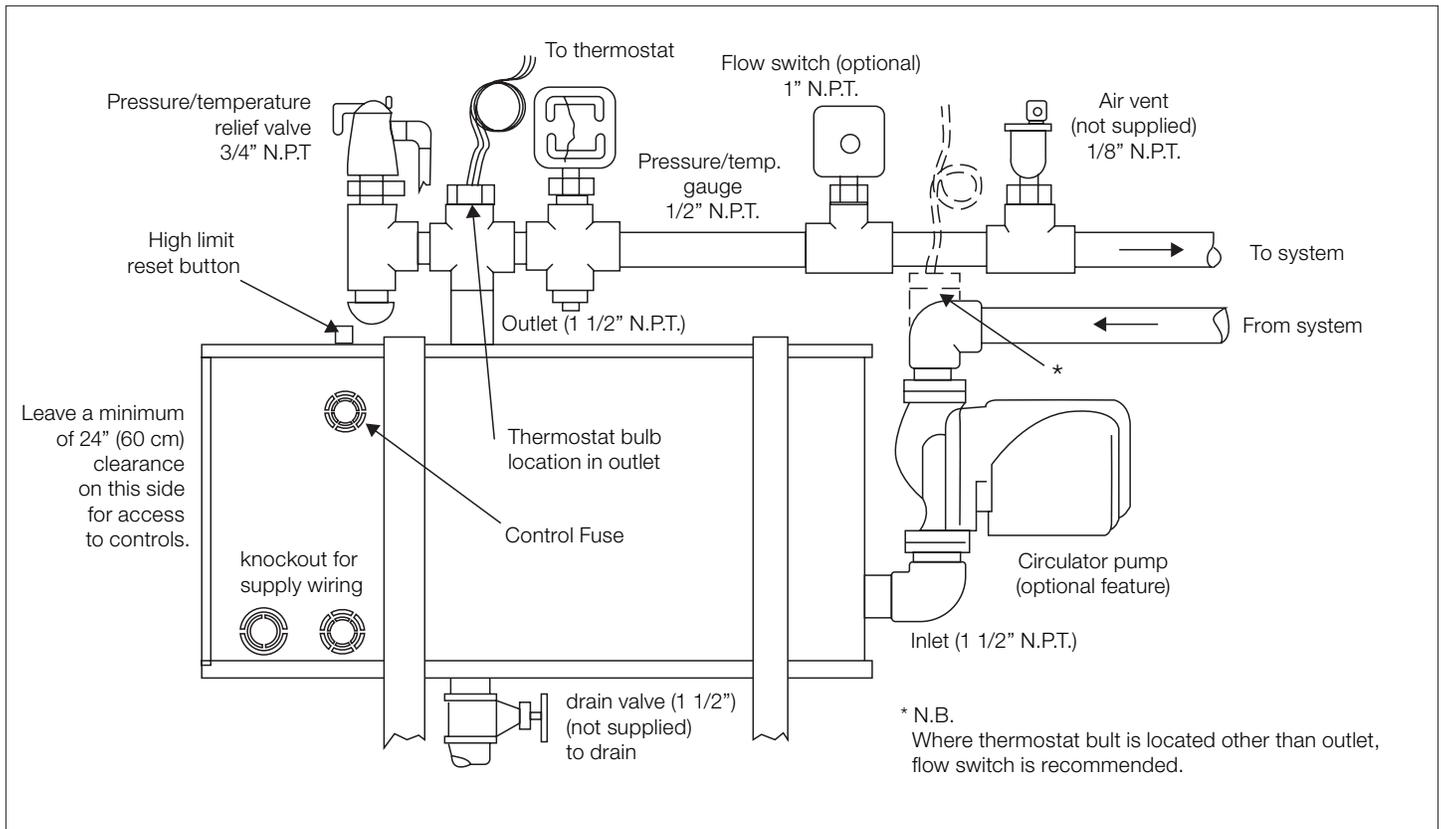

Figure 2 – Typical Installation
7. Please refer to Figure 2 for component location and note the following: